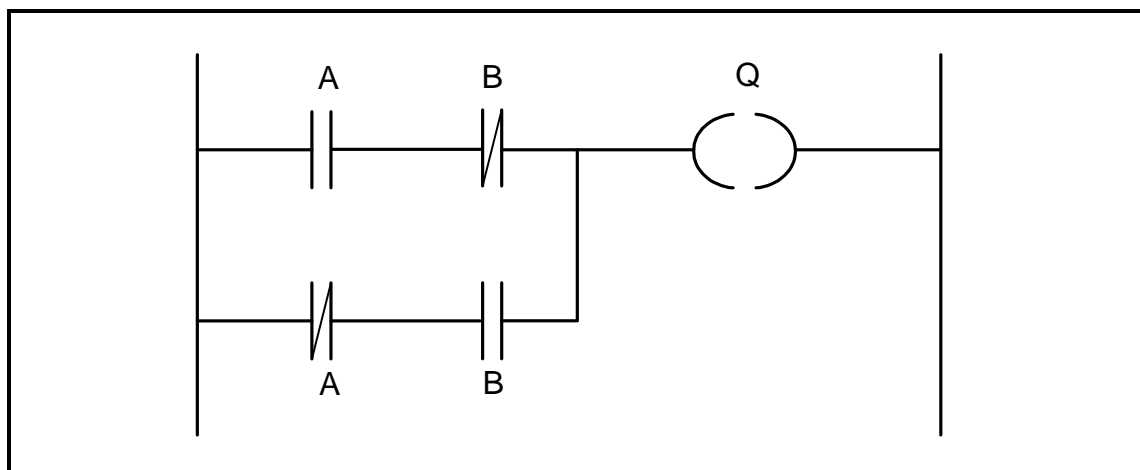

FIGURE 6.4: LADDER LOGIC CIRCUIT
6.4 FIGURE 6.4 below shows a ladder logic circuit. Answer the questions that follow.
6.4.1 Draw the logic gate symbol of the ladder logic circuit in FIGURE 6.4. (2)